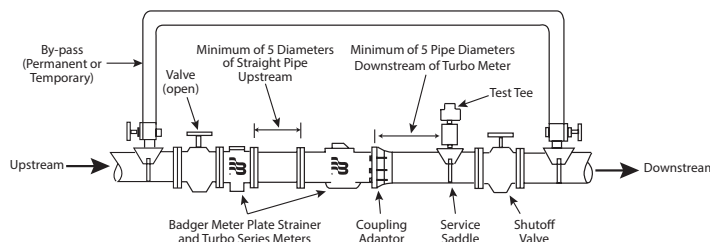

Figure 1: Recommended meter installation
Procedures for installing Recordall Turbo Series meters are essentially the same for all meter sizes. Any special instructions required for the installation or connection of accessory devices such as AMR/AMI technologies or strainers is provided in the literature for those devices. Figure 1 shows a recommended meter installation.
- When installing the meter with a separate plate strainer or integral strainer, a minimum of 5 pipe diameters of straight, unobstructed pipe is recommended upstream of the meter. For optimum protection and accuracy, this straight pipe spool piece should be installed between the separate strainer and meter (see Figure 1). A minimum of 10 pipe diameters (minimum of 25 pipe diameters for smallest size) of straight unobstructed pipe is recommended upstream of a meter installed without a plate strainer. The deletion of a strainer, however, is not recommended. This allows for dampening of velocity profile distortions caused by elbows, pumps and dirt traps upstream of the meter. Where spiral flows are created by three dimensional elbows or rotary pumps, additional distance to dampen the effect is beneficial. If a basket or Y-type strainer is used, place it 5 to 10 pipe diameters upstream of the meter to dampen velocity profile distortions created by this design.